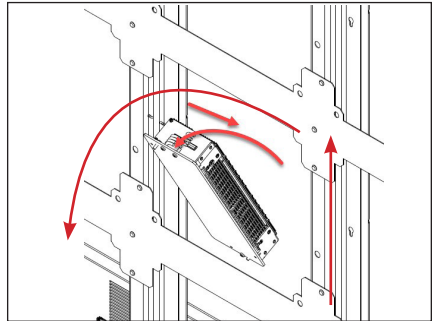

Figure 43: Remove Power Supply
- 5. Disconnect the AC/DC power harness and remove the power supply. Refer to **Figure 43**.